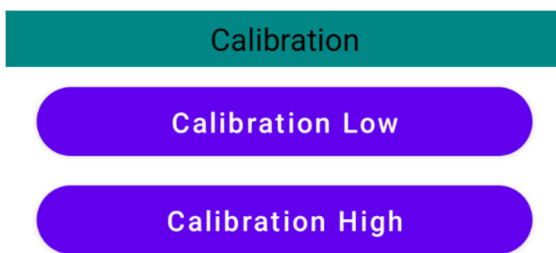

Figure 83 – Calibration level
2. Select the Calibration menu item, select the calibration level of Low or High (Figure 83). Tap the  button.